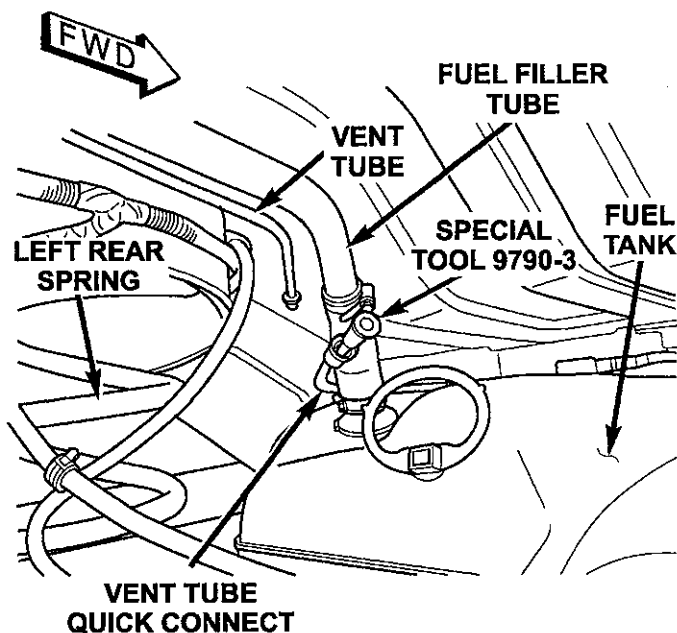

Figure 2 – Plug Vent Tube
4. Using Miller Special Tool 9790-3, plug the vent tube on the fuel tank side of the quick connect fitting (Figure 2).